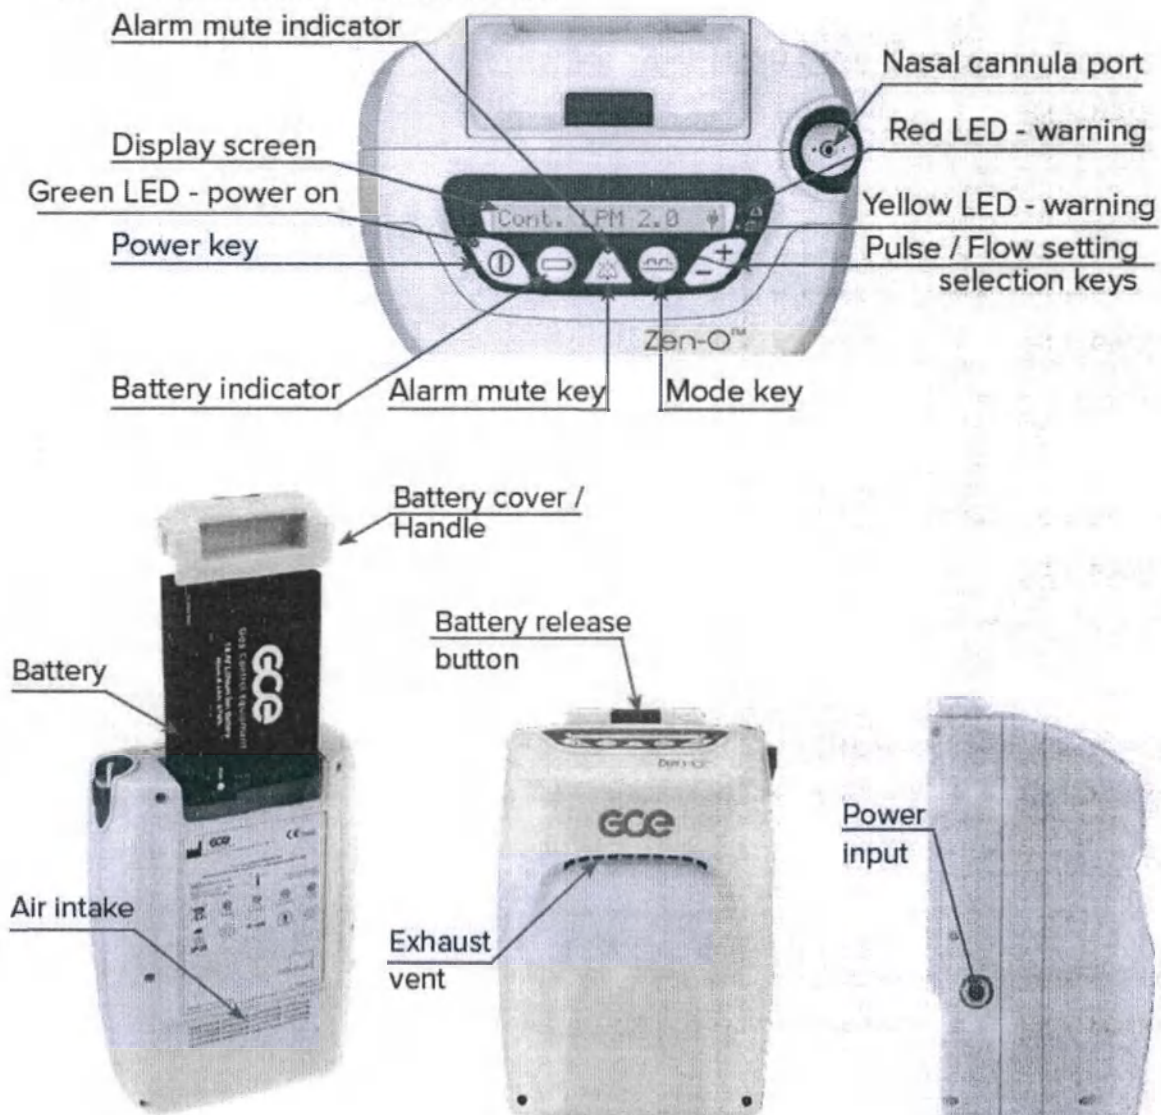

FIG. 1
35. The device can be isolated from power by disconnecting the power supply from the input connector, see fig. 1, position the device for easy access to the power supply input connector.